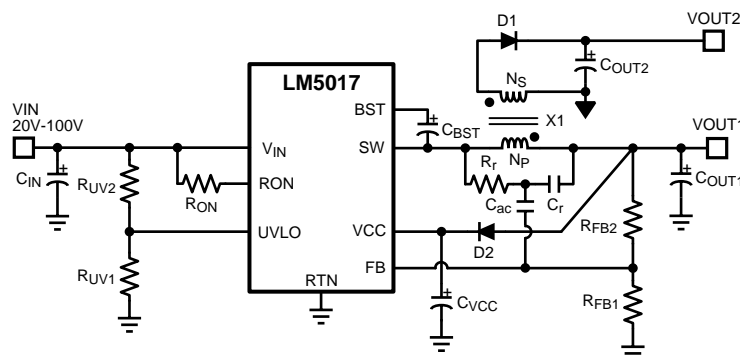

Figure 18. Typical Isolated Application Schematic
An isolated supply using LM5017 is shown in Figure 18. Inductor (L) in a typical buck circuit is replaced with a coupled inductor (X1). A diode (D1) is used to rectify the voltage on a secondary output. The nominal voltage at the secondary output (V_{OUT2}) is given by: